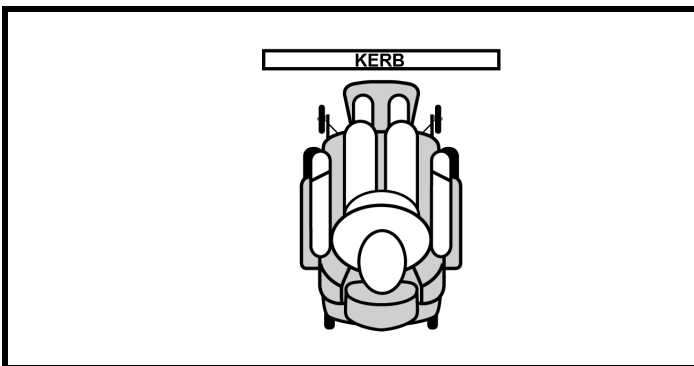

Figure 2. Correct Kerb Approach
Proceed with extreme caution when driving near raised surfaces, unprotected ledges and/or drop-offs (kerbs, porches, stairs, etc.). The correct method for approaching a kerb is illustrated in **figure 2**.
1. Approach the kerb or obstacle slowly, and make sure the power chair is traveling perpendicular to the obstacle. See **figure 2**.
1. Approach the kerb or obstacle slowly, and make sure the power chair is traveling perpendicular to the obstacle. See figure 2.